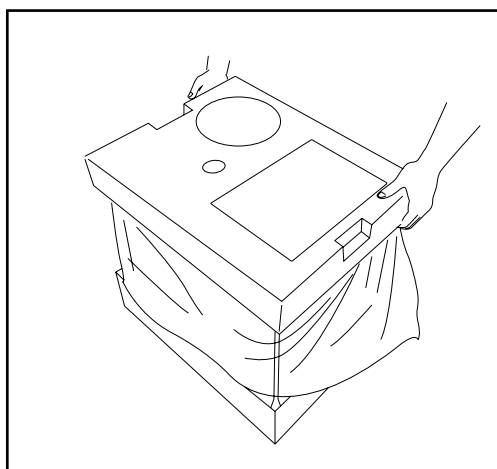
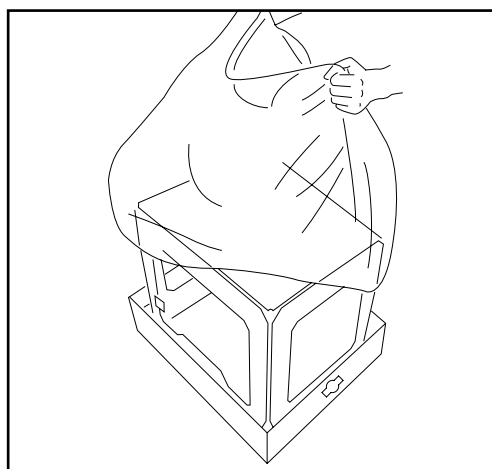

Figure 2.3 Top part
Figure 2.4 Bottom part
- 2 Inside the box you will find two packages: a box of accessories (fig. 2.3) at the top, and underneath it a tray containing the printer (fig. 2.4).